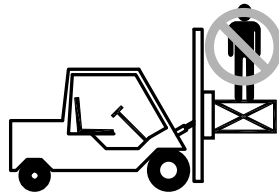

Figure 3-1,
- Never stand on top of material being raised, lowered, or transported. (Figure 3-1